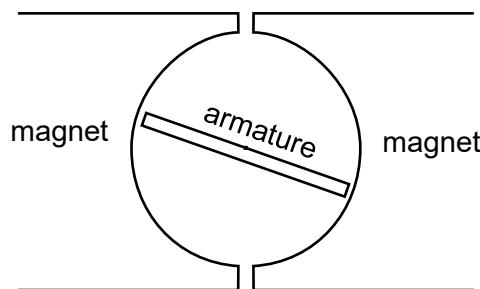

Fig. 5.2
- (c) In reality, magnets used in motors typically have curved pole pieces, as shown in Fig. 5.2.